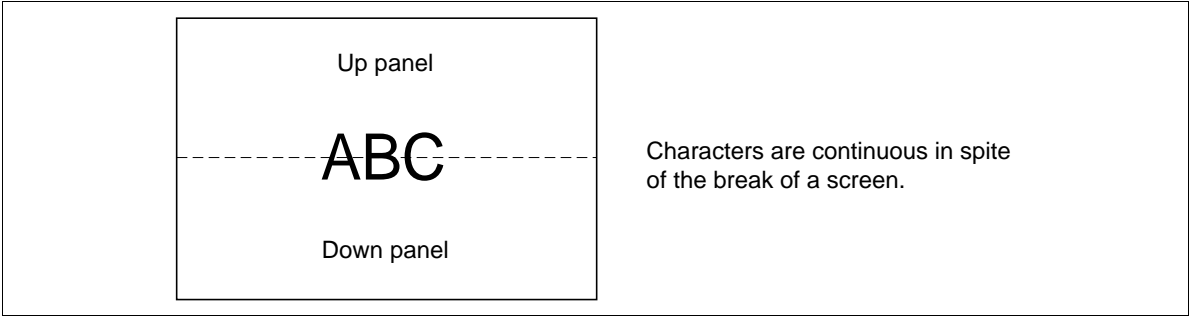

Figure 20 Example of the Display in the Character Mode
When the LCTC mode is set for character display and dual screen, memory addresses (MA) and raster addresses (RA) are output in such a way as to keep continuity of a display spread over the two panels. Therefore users can use the LCTC without considering the multiplexing duty ratio (the number of vertical dots of a screen) or the character font. (See Figure 20.)